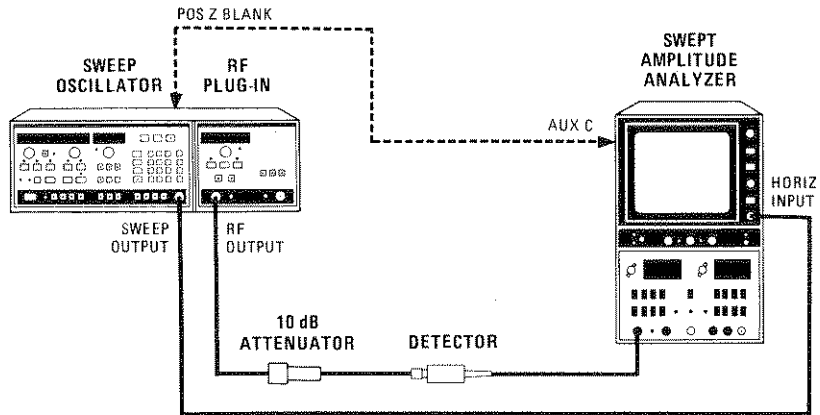

Figure 5-23. YTM Delay Compensation Adjustment Test Setup
1. Connect the equipment as shown in Figure 5-23. Do not connect the BNC cable between the 8350A rear-panel POS Z BLANK and the 182T AUX C connector yet. Preset A7R45 (SEQ TC) fully counterclockwise. Refer to Figure 5-24 for adjustment locations. Allow the equipment to warm up for one hour.